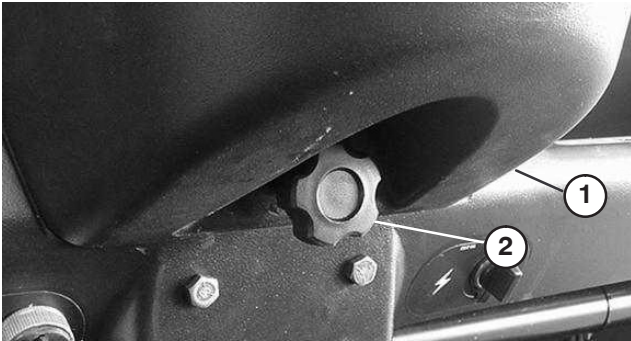

Figure 11
2. Loosen knob securing cup holder to dash (Fig. 11). Remove cup holder from dash.